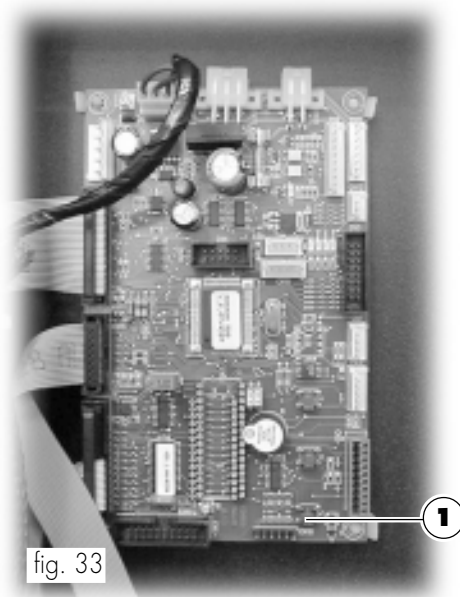

fig. 33
In order to properly carry out this operation, disable the safety device and press key 1 (fig. 33) to access the programming menu.